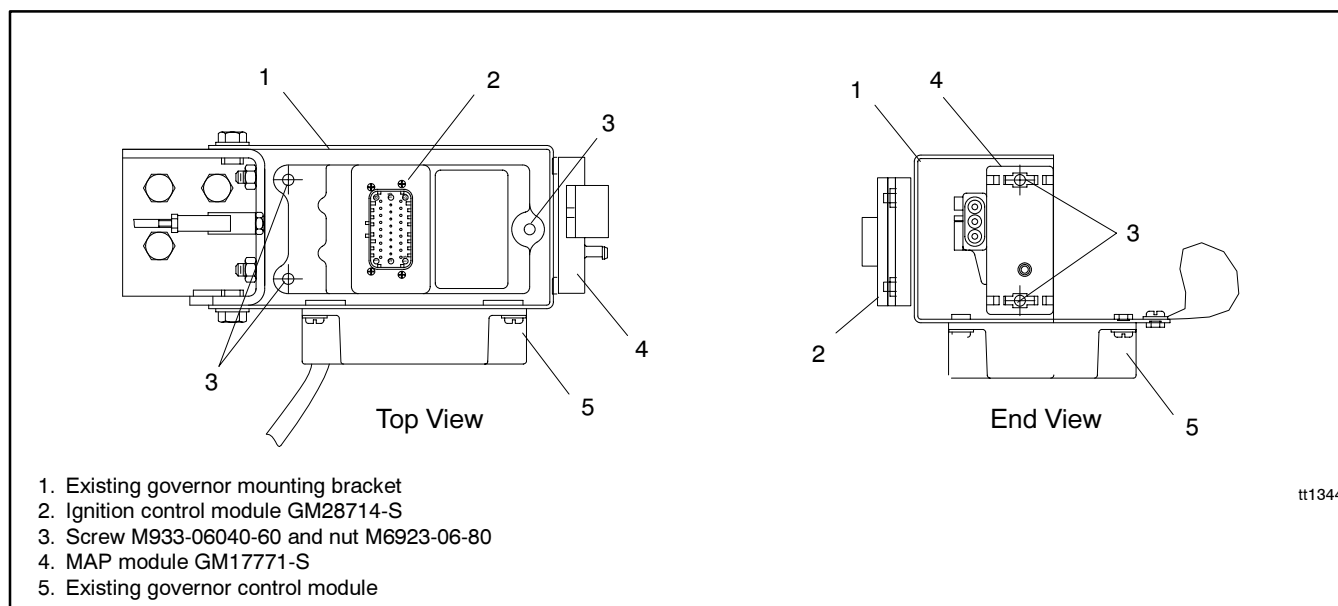

Figure 6 Ignition Control Module and MAP Sensor Installation on Marine 15/20 kW Generator Sets
4. Use the ignition control module (GM28714-S) as a template to mark three holes in the top of the existing governor controller mounting bracket. See Figure 6.
6. Use the manifold air pressure (MAP) module (GM17771-S) as a template to mark the locations of two holes on the lower back side of the existing governor controller mounting bracket. See Figure 6.
8. Use three screws (M933-06040-60) and nuts (M6923-06-80) to mount the ignition control module (GM28714-S) in the orientation shown in Figure 6.
9. Use two screws (M933-06040-60) and nuts (M6923-06-80) to mount the MAP module (GM17771-S) in the orientation shown in Figure 6.